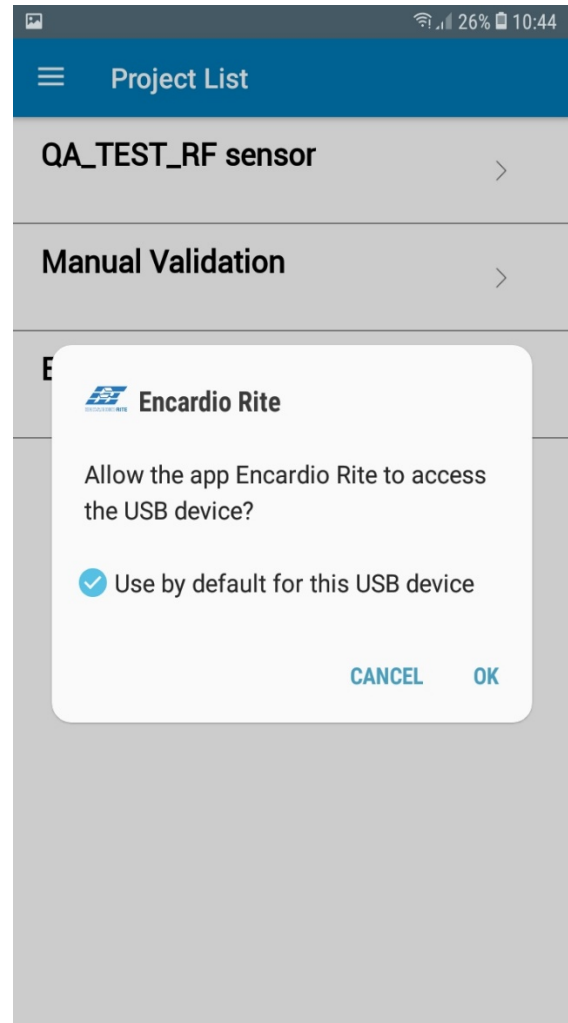

Figure 3-41
2. Connect the Android smartphone to the Node via an OTG adapter (Refer to figure 3-41). A prompt window will appear asking to access the USB device. Then Click OK as shown below in figure 3-41.